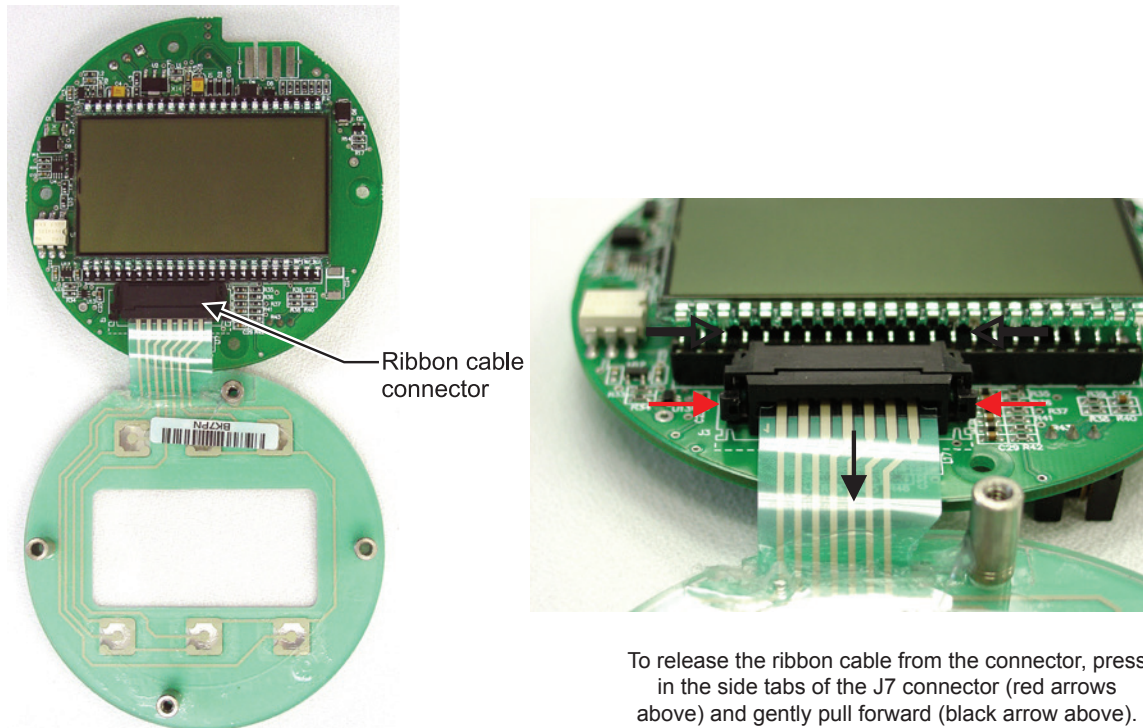

Figure 5.5—Keypad ribbon cable connector showing location of removal clips
11. Remove the keypad ribbon cable from the J7 connector on the LCD side of the circuit board by pressing in on the sides of the black plastic clip and pulling gently on the clip. Do not pull on the ribbon cable; the cable will release freely when the clip opens (Figure 5.5, page 79).
- a. Grasp the black clip between the thumb and forefinger (Figure 5.5).